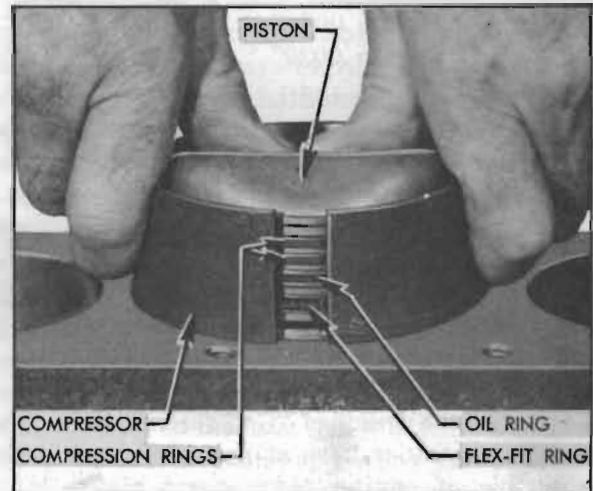

Figure 2-34—Installing Piston with Ring Compressor
6. Before installation of each piston and rod assembly in cylinder bore, carefully place the Flex-Fit oil ring in the bottom groove and compress it with a tapered sleeve ring compressor of proper size. Make sure that inner surface of compressor is clean, smooth and free of burrs. The compressor must be pulled toward top of piston to compress the Flex-Fit ring as well as the other piston rings. See figure 2-34.
7. Insert rod and piston assembly into cylinder bore with hollow side of piston toward camshaft. With ring compressor resting squarely on top of cylinder crankcase, snap the piston down into bore by using the thumbs as shown in figure 2-34. An alternate method is to grip the compressor firmly as if to close the gap, then lightly tap the piston down with a hammer handle. If the piston does not enter cylinder bore without excessive force, remove the assembly and check for the cause.